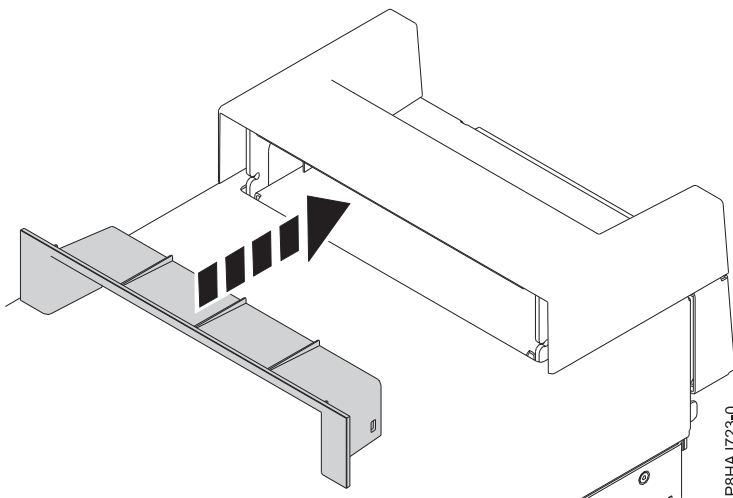

Figure 18. Inserting the piece within the handle cover on an 8286-41A stand-alone system
2. Insert the piece within the handle cover by pushing it firmly into the handle cover as shown in Figure 18.